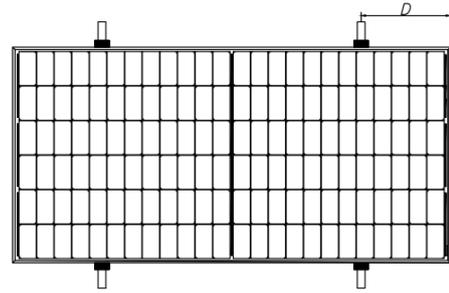
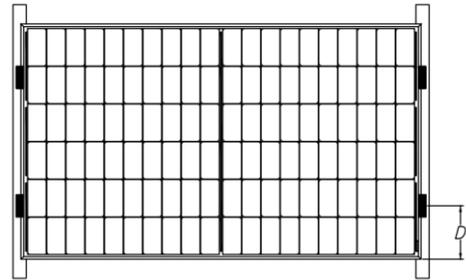
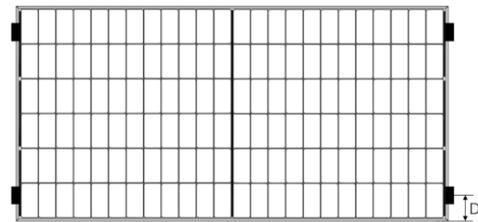

Fig. 11 Rails vertical to the long-side frame
Fig. 12 Rails overlapping the short-side frame
Fig. 13 Four clamp mounting on short side of frame
Photovoltaic modules can be installed across the support frame (Fig. 11) or parallel to the frame of the photovoltaic module (Fig. 12). PV modules can also be installed with four fulcrums (Fig 13). When using clamp to install, each module must be secured with a minimum of 4 clamps.
⑧ For the mounting shown in Figure 12, the overlap between the C surface of the assembly and the rail should be $\geq 25\text{mm}$. Astronergy's limited warranty will be void if improper clamps or improper installation is used.